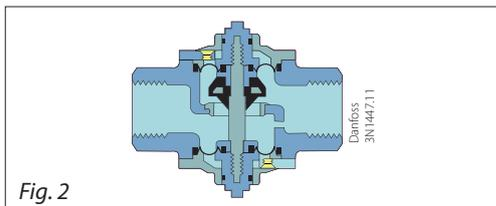

Fig. 2
2. Fig 2. Valve body with orifice, closing cone and seal- ing elements.